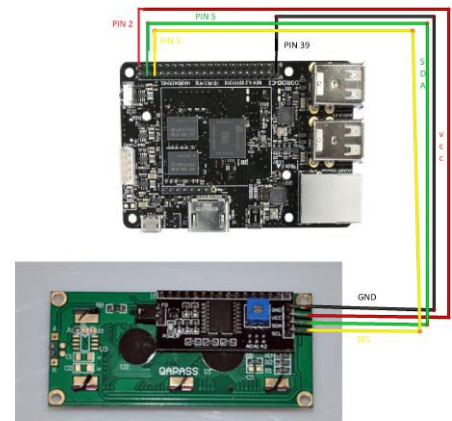

Figure 1 - wiring diagram
- Optional: Power bank with UBEC (3A max, 5V) if you want to operate the device autonomously (see Figure 1). Hardkernel provides a better solution with UPS3 specifically designed for ODRROID-C2. You can purchase the UPS3 from their store at this link: <http://bit.ly/21rE25>. The UPS3 is a good choice, as it gives the detector the ability to operate autonomously with greater stability and duration.
For the wiring, please follow the schematic in Figure 1. There are 2 important wires for the communication: the SDA that provides the I2C serial data, and the SCL that provides the I2C serial clock. The SDA is on Pin 3 on the I2C
LCD Display and is connected on GPIO Pin 3 of ODRROID-C2. The SCL is on Pin 4 and is connected on GPIO Pin 5 of the ODRROID-C2. For visual reference see the schematic in Figure 1 and Hardkernel's excellent 40-pin layout for ODRROID-C2 (<http://bit.ly/2aXAlmt>). These will help to make sure the wiring is correct. Now that we have our hardware ready, let's see how we can establish a communication between the ODRROID-C2 and the I2C Serial LCD Display using the I2C protocol. The GPIO Pin 2 provides the VCC power, +5V, for the LCD Display and GPIO Pin 39 is of course the ground, GND.